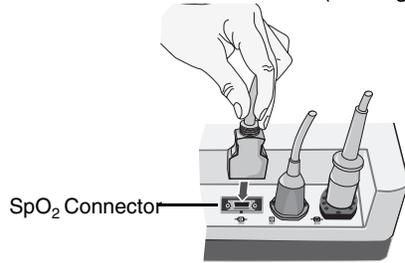

Figure 1
- Connect the patient cable to the SpO₂ connector at the back of the M Series unit (see Figure 1).